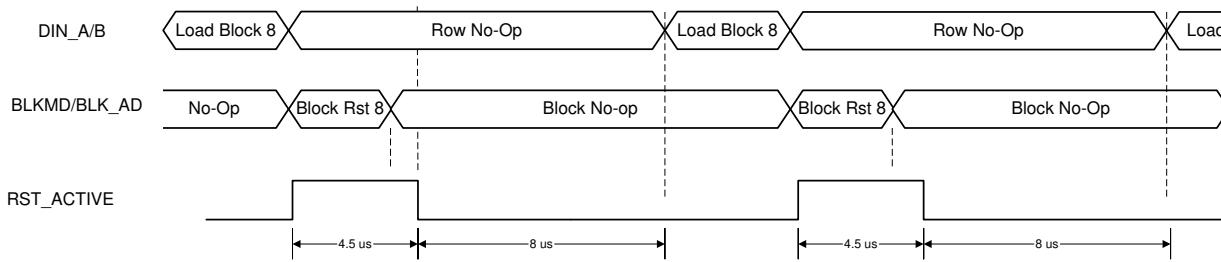

Figure 13. Block Load, Reset, and Same Block Reload
Once the block is loaded with data, a Block Reset (MCP) for that block must be initiated. This can be performed by providing a row cycle with BLKMD = "10" and with BLK_AD(3:0) equal to the block just loaded. Upon initiation of the Block Reset, RST_ACTIVE will transition high for approximately 4.5 μ s indicating a Reset operation is taking place and that no additional Reset Requests will be accepted during that time. In the case of wanting to reload the same block with new data, one must wait for the 12.5 μ s (RST_ACTIVE (4.5 μ s) + the micromirror settling time (8 μ s)) before the reload of the same block can start. Waiting this time allows for the DMD micromirrors in that block to settle to a stable state prior to reloading the memory cells underneath with new data. Figure 13 shows a single block load, Mirror Clocking Pulse and reload sequence with the 8 μ s periods indicating micromirror settling times.
Although Figure 13 shows that one must wait for the mirror settling time of the current block (Block=8 in this case) to complete before reloading data into the same block (8), it is possible to load data to a different block while waiting for Block 8 to settle. However, it must be a block which is not currently being Reset nor which has micromirrors which are still settling. This method is used in the Phased Mode of operation described in Single Block Phased Mode.